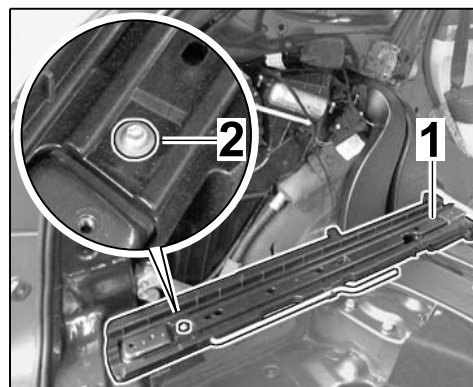

Figure 18
3.1.1 Unscrew screw ⇒ *Figure 18 -2-* and remove the rail ⇒ *Figure 18 -1-*.